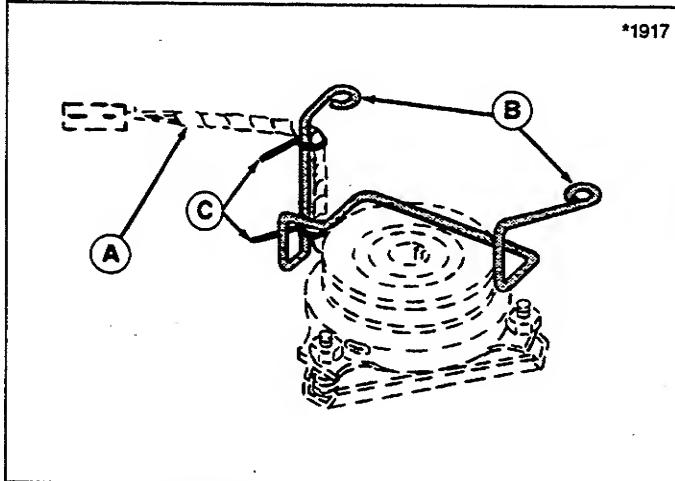

Figure 5. PTO Wire Harness
3. Connect wire harness for PTO as shown in figure 5. Secure wire to belt stop with reusable ties. If ties are damaged, tape wire securely at top and bottom of belt stop.
8. See figure 5. Disconnect wiring harness from PTO harness plug. Remove the ties securing harness to belt stop.